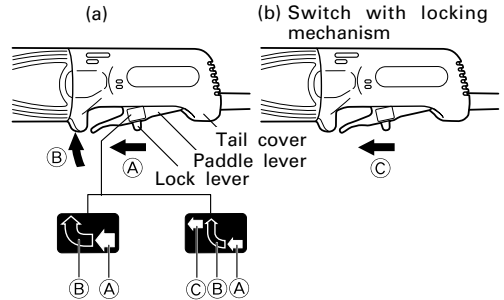

Fig. 3
3. To prevent a new depressed center wheel from digging into the workpiece, initial grinding should be performed by drawing the grinder across the workpiece toward the operator (Fig. 3 direction B). Once the leading edge of the depressed center wheel is properly abraded, grinding may be conducted in either direction.
Switch ON: To switch on, slide the lock lever in the direction of ⑪ and press the paddle lever in the direction of ⑫ as shown in Fig. 3-a.
Furthermore, slide the lock lever in the direction of ⑬ shown in Fig. 3-b while pressing the paddle lever to lock and enable continuous operation.
Switch OFF: To release the locking mode, press the paddle lever in the direction of ⑭ shown in Fig. 3-a, and release the paddle lever to switch off.
To switch on, slide the lock lever in the direction of ⑪ and press the paddle lever in the direction of ⑫ as shown in Fig. 3-a. Release the paddle lever to switch off.